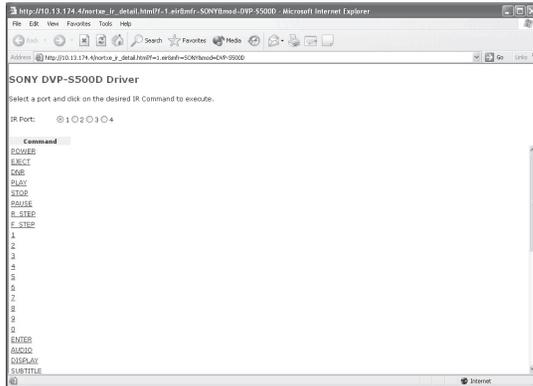

Figure 4-13 — Example of the default Web interface of an .eir file
5. Click the IR driver that controls the device. A separate IR interface screen (figure 4-13) will display the commands in the driver.